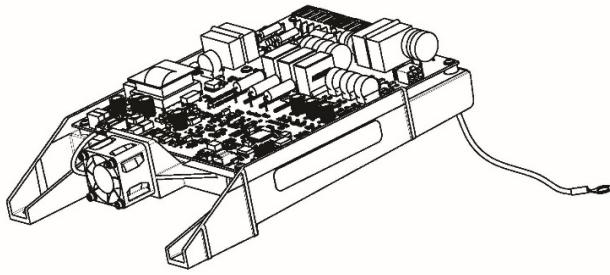
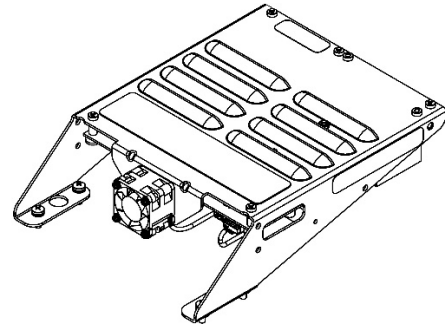

Figure 1 – Open-Top Soft Start
Figure 2 – Closed-Top Soft Start
The Soft Start included in this kit is noticeably different from the earlier Soft Starts. To identify the two (2) different Soft Start styles, refer to Figure 1 – *Open-Top Soft Start* and Figure 2 – *Closed-Top Soft Start*.